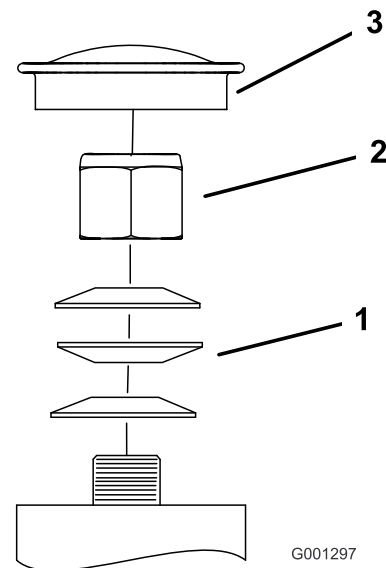

Figure 52
3. Remove the dust cap from caster and tighten lock nut (Figure 52).
4. Tighten the locknut until the spring washers are flat and then back off a 1/4 turn to properly set the pre-load on the bearings (Figure 52).
- Important:** Make sure the spring washers are installed correctly as shown in Figure 52.
5. Install the dust cap (Figure 52).